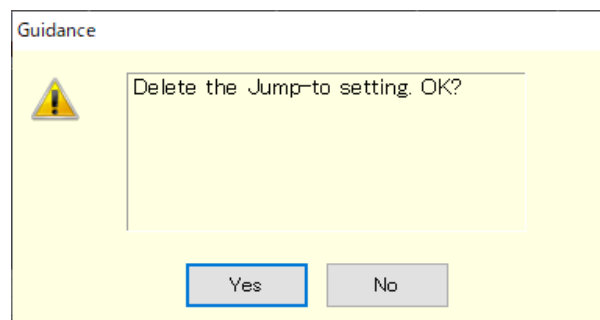

Figure 5-5 Confirmation Dialog for Deleting a Step
- When a step that is set as the destination of any jump-to step or branch step is deleted, the dialog as shown in Figure 5-5 appears. When you select **Yes**, the step is deleted and then the step number of the jump-to or branch step is automatically updated to disable. If you select **No**, deletion of the step is canceled.